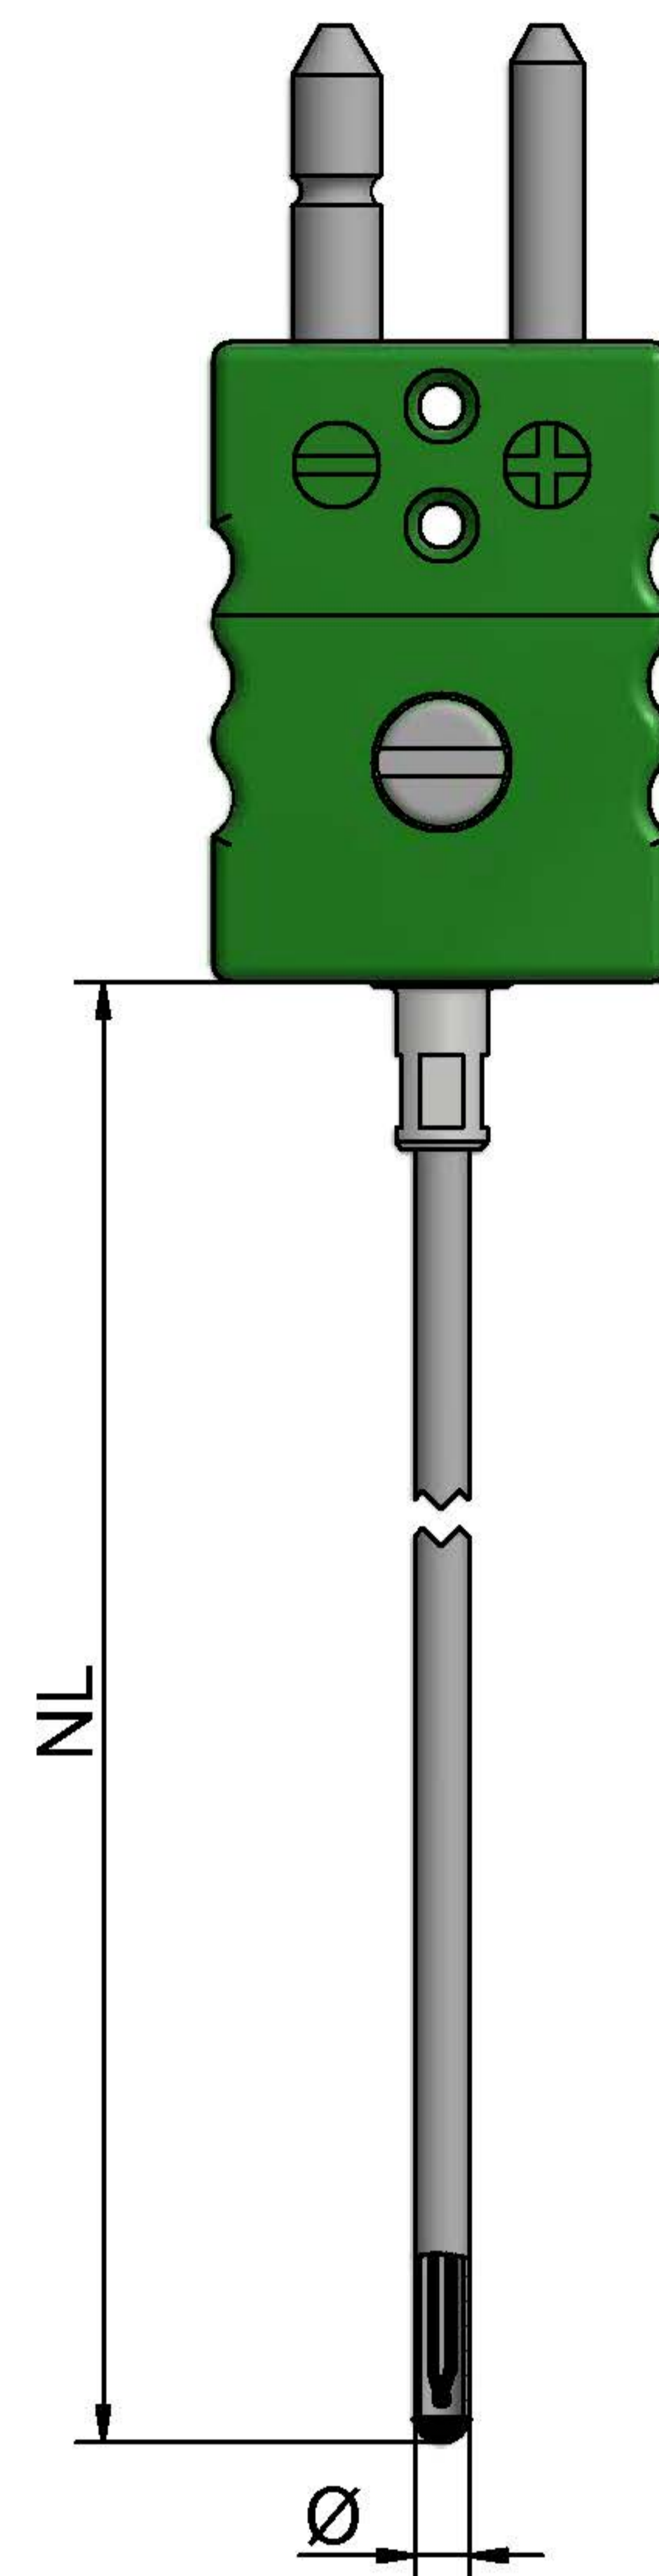

fig. 1
- **Operating temperature MIT** (Abb. 1/5)